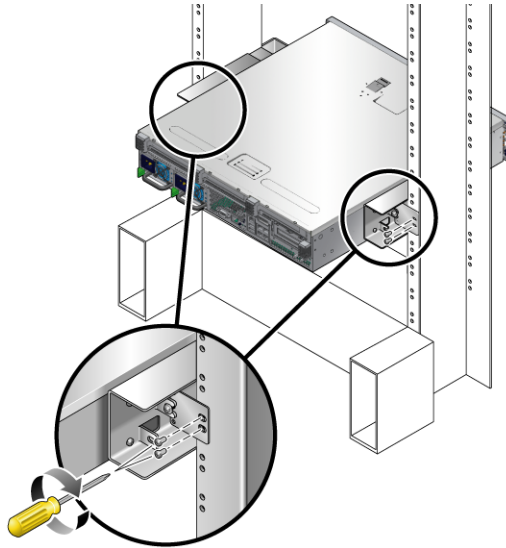

FIGURE 4-7 Securing the Rear Plate to the Back of the Post
- d. Using two screws, secure the other side of the rear plate to the back of the post (FIGURE 4-7).